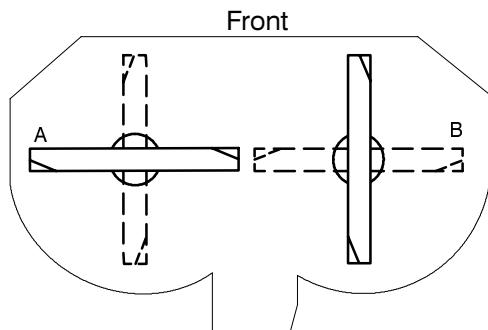
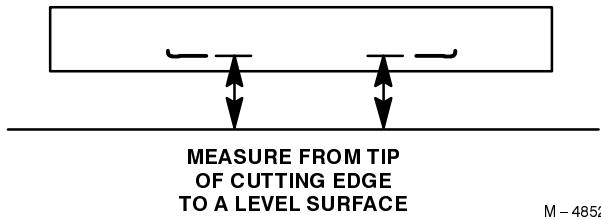

Figure 53
Figure 54
2. Position the blades side-to-side (Fig.53). Measure at "A" and "B" locations (Fig. 53) from a level surface to the cutting edge of blade tips (Fig.54).